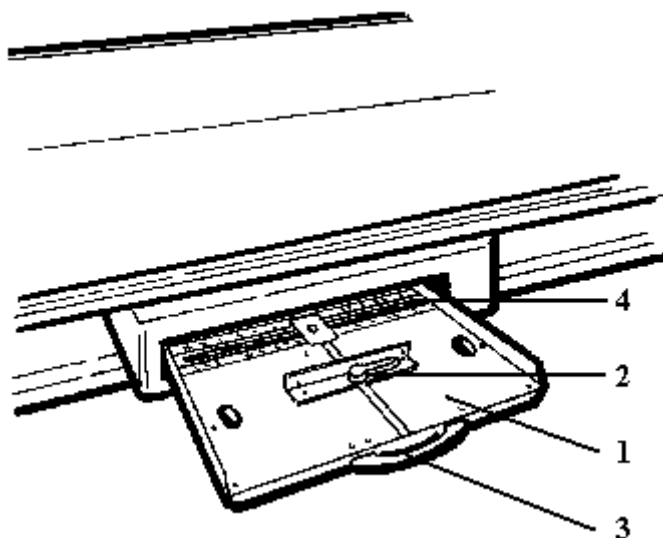

Figure 2-1: Cassette Tray
The controls of the Manual Cassette Tray KL are shown in Figure 2-1: Cassette Tray and their functions are briefly described on the following page.
The cassette tray KLFA (Figure 2-1, item 1) positions the film cassette in the Bucky.
Two cassette clamps (Figure 2-1, item 2) center the film cassette transversely within the cassette tray KLFA (Figure 2-1, item 1).
A film cassette may be inserted, when the cassette tray KLFA (Figure 2-1, item 1) is pulled out by its handle (Figure 2-1, item 3) from the Bucky to the forward stop.
The film cassette may be longitudinally centered within the cassette tray KLFA (Figure 2-1, item 1) with its transverse center line aligned with the notch in the cassette clamps (Figure 2-1, item 2) or by pushing the film cassette against the cassette positioner (Figure 2-1, item 4) positioned into the locking corresponding to the inserted film cassette.
- Pull out the cassette tray KLFA (Figure 2-1, item 1) by its handle (Figure 2-1, item 3) from the Bucky until it hits the forward stop.
- The cassette clamps (Figure 2-1, item 2) center the film cassette transversely within the cassette tray KLFA. Rotate its latch counterclockwise to unlock it.
- Open the cassette clamps (Figure 2-1, item 2) far enough to insert a film cassette of the desired size.
- Insert the film cassette with its transverse center line aligned with the notch in the cassette clamps (Figure 2-1, item 2) or push the film cassette against the cassette positioner (Figure 2-1, item 4) positioned into the locking corresponding to the inserted film cassette (13 cm, 18 cm, 24 cm, 30 cm, 35 cm, 40 cm, or 43 cm).
- Push the cassette clamps (Figure 2-1, item 2) against the film cassette, and rotate the latch into the locked position.
- Push the cassette tray KLFA (Figure 2-1, item 1) fully into the Bucky.